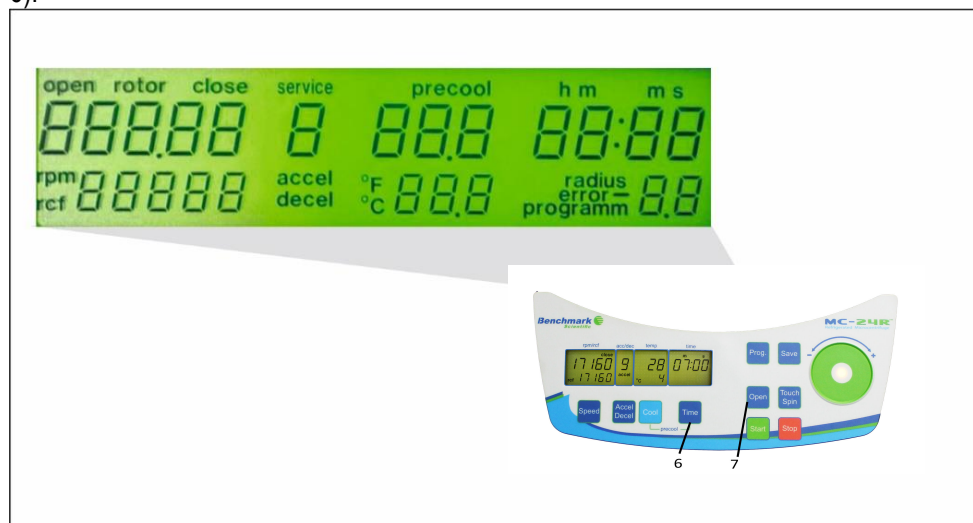

Figure 6
If the centrifuge is still turned off, press the keys, "time" (6) and "open" (7) simultaneously, turning on the main switch of the centrifuge. Now release both keys. As a result, a display test is administered for approx. 5 seconds. All possible indications will appear at the same time (see Figure 6).